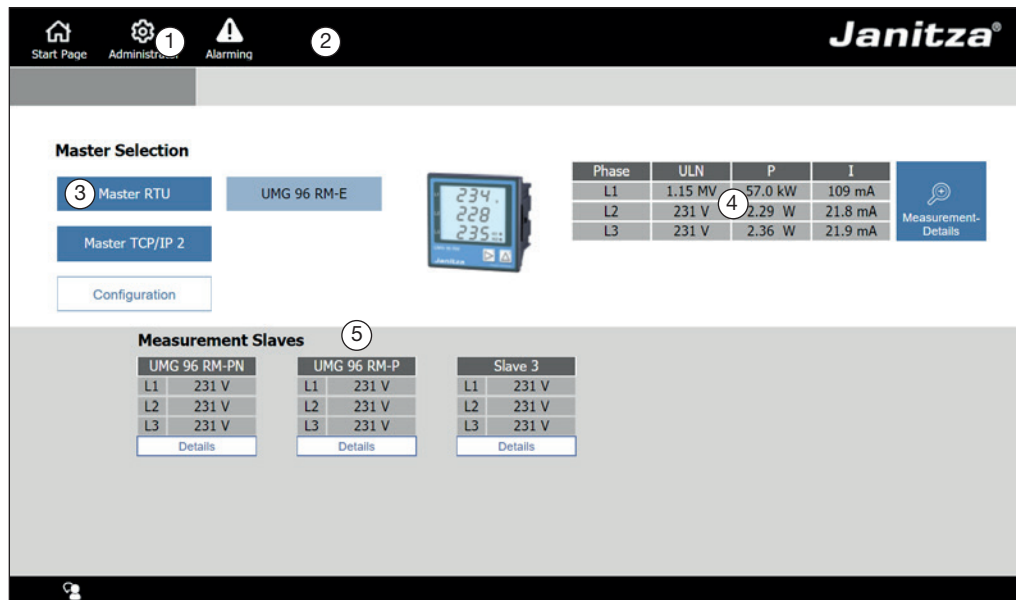

Fig. 09: Start page
The start page (Fig. 09) shows an overview of all integrated devices that is structured as follows:
Open the log-in window via the *Settings* (Fig. 09 ①) and then the *User settings* tab.